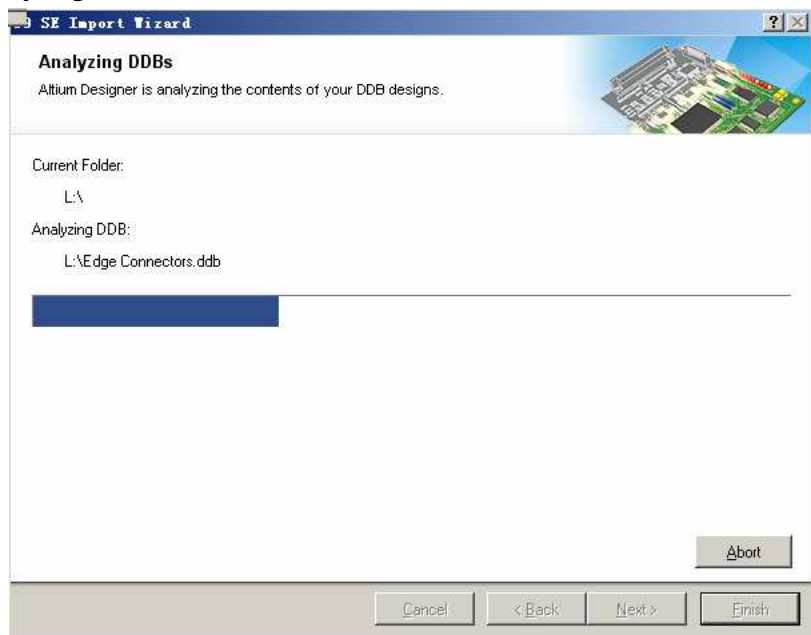

图 10.10 “Analyzing DDBs” 页面
(8) 勾选“Creat one Altium Designer project for each DDB”单选项和“Include non-Protel files (such as PDF or Word) in created Projects”复选项，单击“Next”按钮，打开如图 10.10 所示的“Analyzing DDBs”页面。